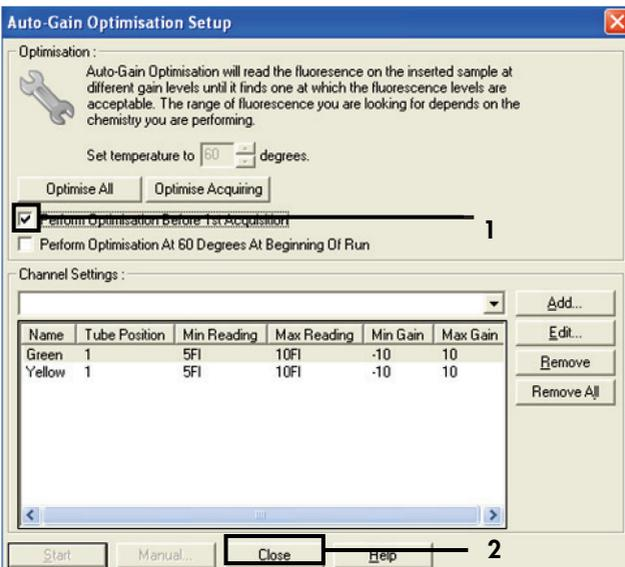

Figure 31. Selection of Green and Yellow channels. 1 = "Perform Optimization before 1st Acquisition" check box; 2 = "Close."
14. Check the **Perform Optimization before 1st Acquisition** box, then click **Close** to return to the wizard (Figure 31).